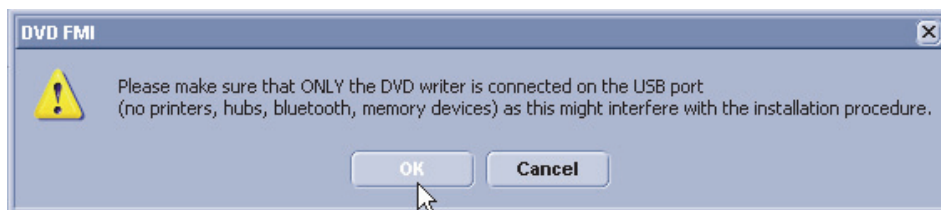

Figure 8-4 Verify that USB devices are disconnected, then click OK
10.) Verify that only the DVD drive is connected to the system, then click OK (Figure 8-4 below).